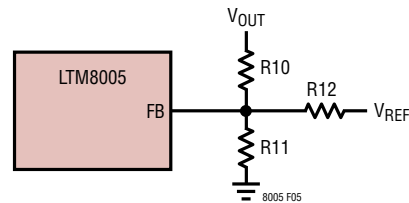
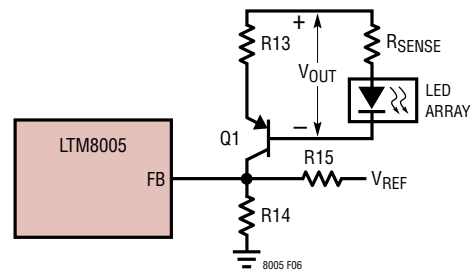

Figure 5. Feedback Resistor Connection for Wide Range Output in Boost and SEPIC Applications
Figure 6. Feedback Resistor Connection for Wide Range Output in Buck-Boost Mode or Buck Mode Applications
0.45A or FB drops below 1.19V (typical). The SHORTLED pin is asserted if the output current is about 2.4A or the FB pin falls below 300mV (typical) after initial start-up and SS reaches about 1.7V. The ratio between the FB OPENLED threshold of 1.2V and the SHORTLED threshold of 0.3V can limit the range of V_{OUT} . The range of V_{OUT} using the maximum SHORTLED threshold of 0.35V is about 3.5:1. The range of V_{OUT} can be made wider using the circuits shown in Figure 5 and Figure 6. For a V_{OUT} range that is greater than 8:1, consult factory applications.
The equations to widen the range of V_{OUT} are derived using a SHORTLED threshold of 0.35V, an OPENLED threshold of 1.2V and a reference voltage V_{REF} of 2V. The resistor values for R11 and R12 in Figure 5 can be calculated as shown below. See the example that follows for a suggested R10 value.
The resistor values for R_{14} and R_{15} in Figure 6 can be calculated as shown below. See the example that follows for a suggested R_{13} value.